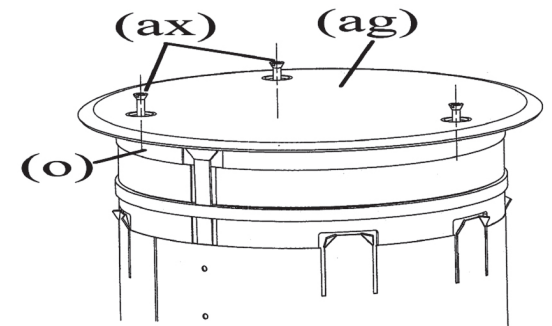

Fig. 11
2. Remove cover assembly by removing screws (ax) attaching cover to the can. See Figure 11.
2. Retirer le couvercle en enlevant les vis (ax) rattachant le couvercle de la boîte. Consulter la Fig. 11.